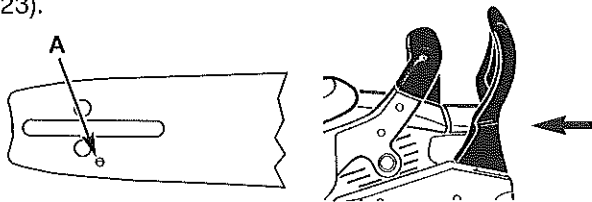
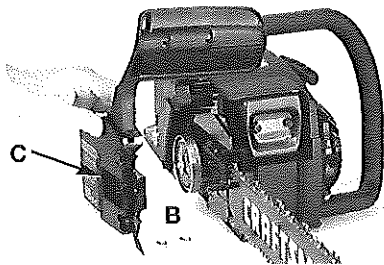
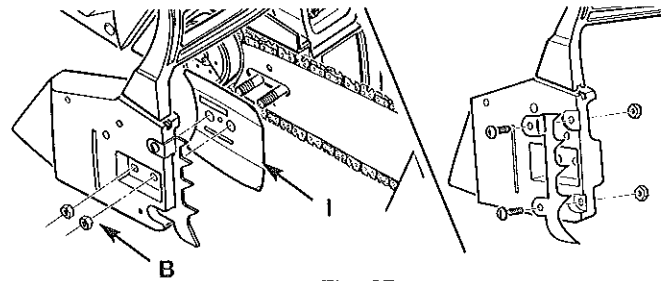
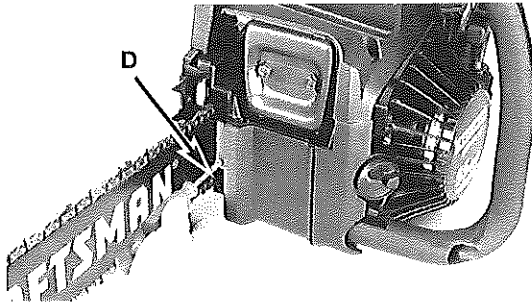

Fig. 21
Fig. 22
Fig. 27
Fig. 28
CAUTION: To ensure the bar and chain receive oil, **ONLY USE THE ORIGINAL STYLE BAR** with the oil passage hole (A) as illustrated in Fig. 21.
1. Make sure the Chain Brake® lever is pulled back into the DISENGAGED position (Fig. 21). Remove bar retaining nuts with supplied multi-purpose tool (Fig. 22).
2. Remove chain brake cover (C, Fig. 22) and outer guide bar plate (I, Fig. 27) by pulling straight out (Fig. 22).
6. Replace the outer guide bar plate (I) so the bent edges (top and bottom) are directed away from the chain (Fig. 27).
7. Install the Chain Brake® cover (Fig. 27). Make sure the chain does not slip off of the bar. Install the 2 bar retaining nuts Tension Adjustment.
1. Loosen the bar retaining nut(s) (B, Fig. 27). Hold nose of guide bar up and turn adjustment screw (D) CLOCKWISE to increase chain tension. Turning screw COUNTERCLOCKWISE will decrease amount of tension on chain. Ensure the chain fits snugly all the way around the guide bar (Fig. 28).